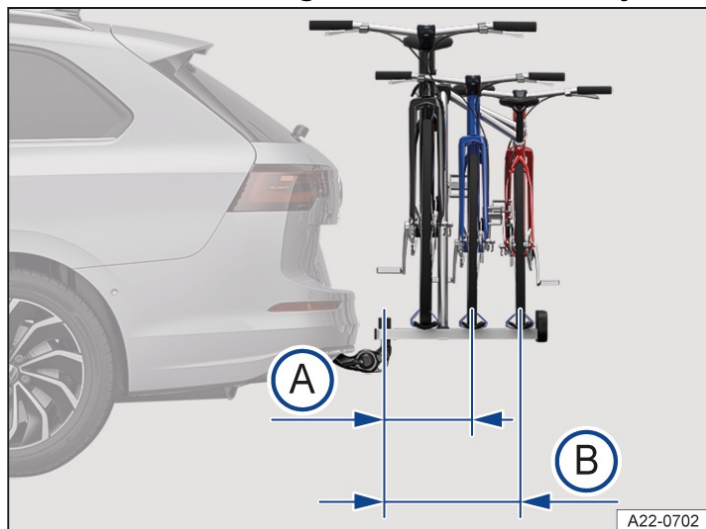

Fig. 2 Illustration of the maximum overhang on a bicycle carrier for two or three bicycles.
- (A) With a load of up to 55 kg (121 lbs): 500 mm (approx. 19.7 in).
- (B) With a load of 75 kg (165 lbs): 700 mm (approx. 27.6 in).
For bicycle carrier systems with two bicycles, the maximum overhang must not exceed 500 mm (approx. 19.7 in) → Fig. 2 (A) from the middle of the ball head to the middle of the rail of the last bicycle carrier. The overhang must not exceed 700 mm (approx. 27.6 in) → Fig. 2 (B) for bicycle carrier systems with three bicycles.